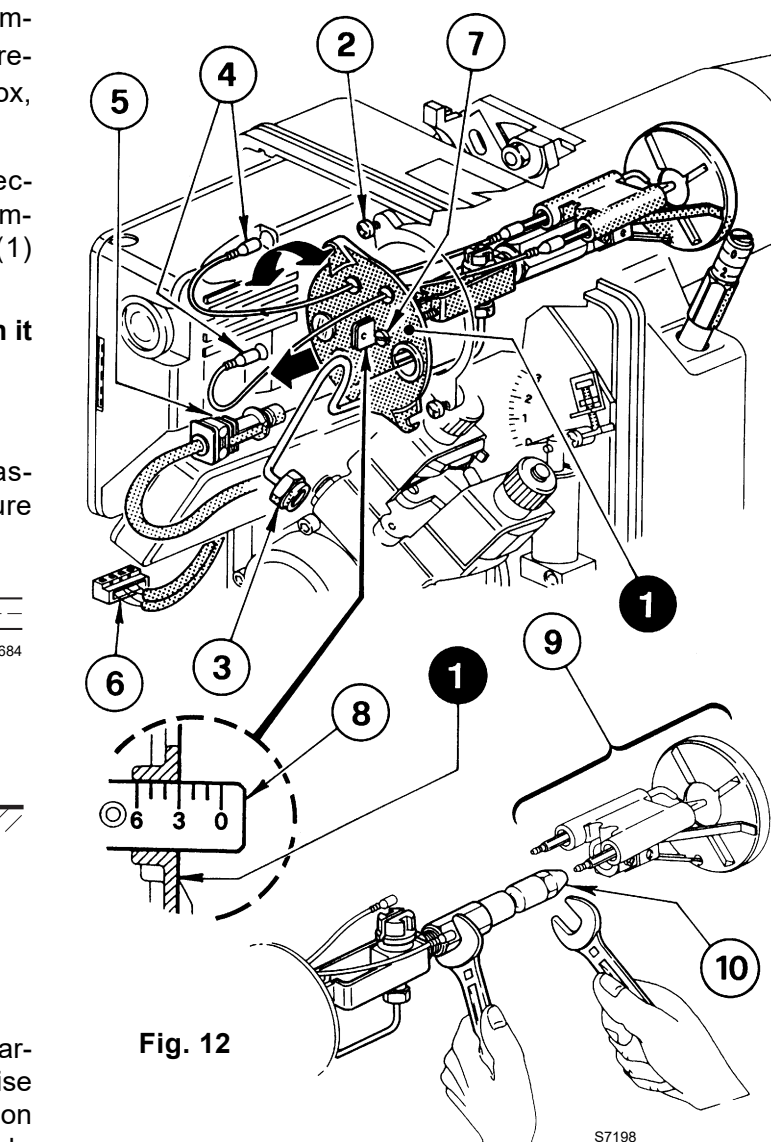

Fig. 12
B Fig. 12 – Remove nozzle-holder assembly (1) after loosening screws (2) and nut (3), remove the small cables (4) from the control box, the flame sensor (5) and the socket (6).
2 COMBUSTION HEAD SETTING (see Fig. 12)